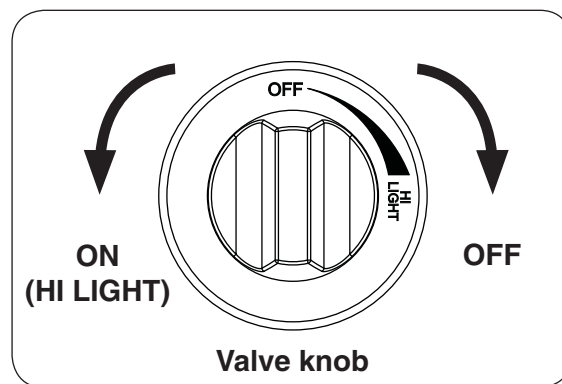

Fig. 21-2
4. **While holding the igniter button in, verify that the electrode spark is grounding to the flash tube**, then depress the gas control knob and **gradually** turn it counter-clockwise to the **HI LIGHT** position (see Fig. 21-2). Your burner should light.
To extinguish your gas burner, depress the gas control knob and turn it clockwise to the **OFF** position (see Fig. 21-2). Be sure the control knob is turned fully off to avoid any gas leakage.